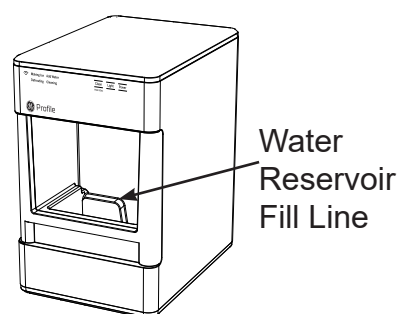

Figure 1
1. Create a solution of five cups of water and one teaspoon household bleach and pour solution into water reservoir, up to the fill line shown in Figure 1.